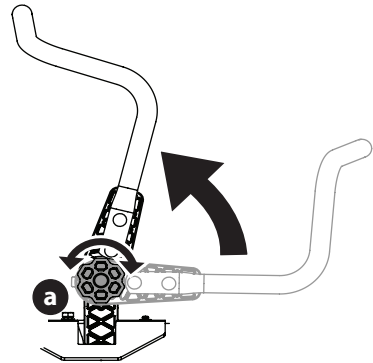

**Figure 12**
1. Remove the two carriage screws (a) and two flange lock nuts (b) that secure the lapbar drive control lever (c) to the upper handle adjuster (d) (Figure 12).
2. Move the lapbar drive control lever into one of the three available heights and secure in place with the carriage screws and flange lock nuts (Figure 12).
4. If the lapbars do not line up after making the knob adjustment, loosen nuts (b), align lapbars and retighten nuts. Once this fine adjustment is made, the lapbars will align when using the knob adjustment (Figure 12).